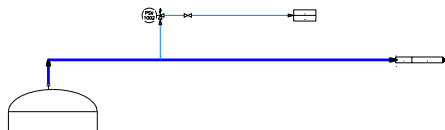

Figure 2-87 Location of utility connector and off page connector
4. Choose the **Utility Connector** tool from the **Off Page Connectors and Tie-In Symbol** area of the **Non-engineering** tab of the **TOOL PALETTES - P&ID PIP** and place them at the locations shown in Figures 2-87 and 2-88.